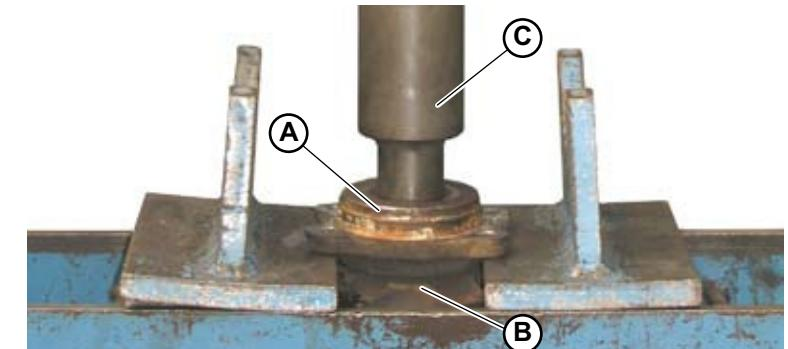

Fig.5
1. Place the bearing (A-Fig.5) and the front wheel hub (B-Fig.5) under a press (C-Fig.5) and exercise enough pressure to detach the two components.